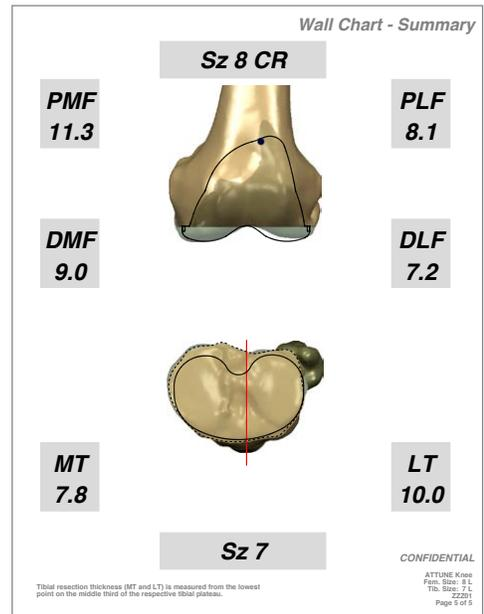

Figure 36
- For intra-operative reference, display the Wall Chart Summary page (Figure 36) at an easy-to-read location in the OR, such as the light box or back wall.
- Review the Wall Chart Summary (Figure 36), which contains implant sizing bone resection information and the tibial Guide orientation line.